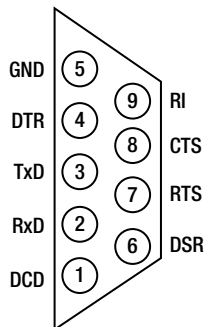

Figure 9-6. The pin out of a DB-9 shell
1. Start off by taking P1-08 (TX) to pin 11 on the MAX3232 (T1IN). Then connect P1-10 (RX) to pin 12 (R1OUT) on the MAX3232.
3. Connect pin 13 (R1IN) on the MAX3232 to pin 3 (TX) on your DB-9 shell and connect pin 14 (T1OUT) from the MAX3232 to pin 2 (RX) on the DB-9 shell.
4. Lastly connect the hook-up wire from anywhere on the ground rail on the breadboard and connect it to pin 5 (GND) on the DB-9 shell. Take a look at Figure 9-6 if you need help with the pin out from the DB-9 shell.